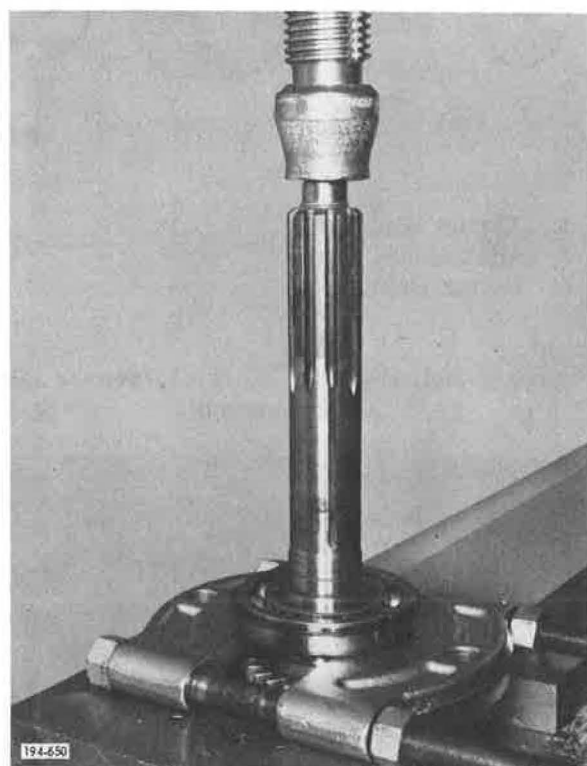

Figure 5-297. Pressing Bearing Off Shaft
2. Press main drive pinion bearing off of the shaft. See Figure 5-297.